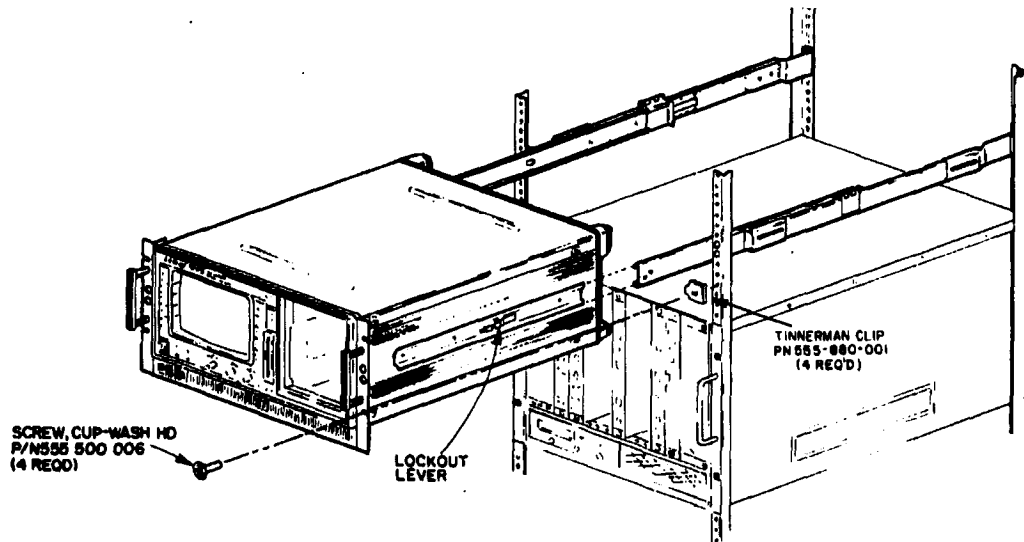

Figure 4: Final Assembly
5. Pull inside member of slide all the way out to lockout position. Lift the 7200A and insert the drawer member into the inside member. Then slide the 7200A in until it locks into position. (see Figure 4). Elevate the lever upward to slide the 7200A all the way in. Pull the unit out once and slide it back in for proper alignment. Then tighten all the loose hardware for mounting brackets to rack. Secure the 7200A in rack using four mounting screws and Tinnerman clips as shown.